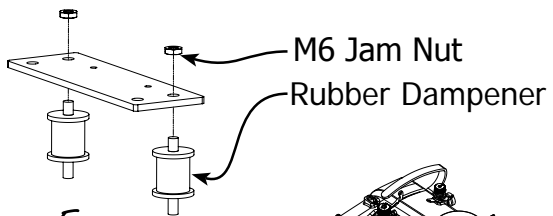

Fig. 5-2
5-2: Insert the short end of (2) Rubber Dampeners into the holes of each previously removed Mounting Plate as shown in Fig. 5-2. Tighten (1) M6 Jam Nuts onto the end of each bolt using the 10mm Wrench.